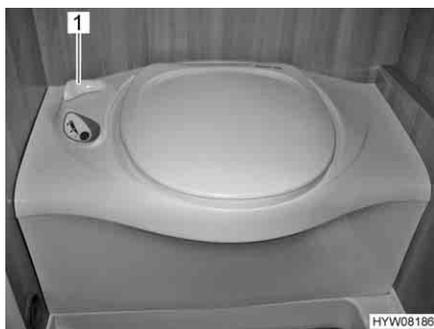

Fig. 203 Thetford toilet
- Before flushing open the sliding trap of the Thetford toilet. To do this, turn the slide lever (Fig. 203,1) in an anticlockwise direction.
- After flushing close the sliding trap. To do this turn the slide lever (Fig. 203,1) in a clockwise direction.